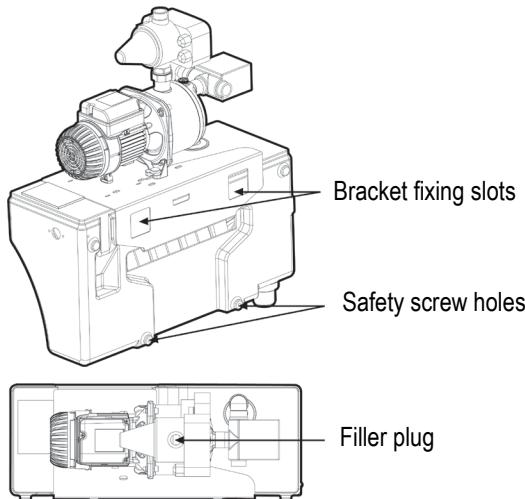

Figure 04
6. Fix the safety screws, see fig. 03 and fig. 04.
2. Check that the float valve moves freely and that it is correctly positioned within the mains water tank (see fig .04). The float should be able to move freely.